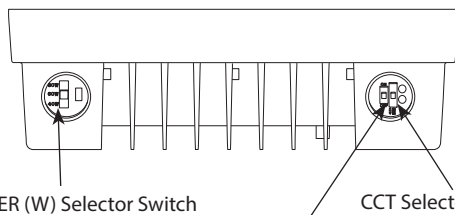

Fig. 8
2. Locate the **Selector Switches** on the fixture (*Fig. 8*).
3. Select **Power (W)** and **Color Temperature (CCT)** by sliding the respective switch to the desired value.